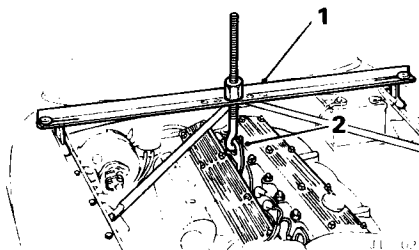

Fig. 22
Position service tool MS 53(A) (1, Fig. 22) across the rear engine lifting eye (2) and set the hook to support the engine.